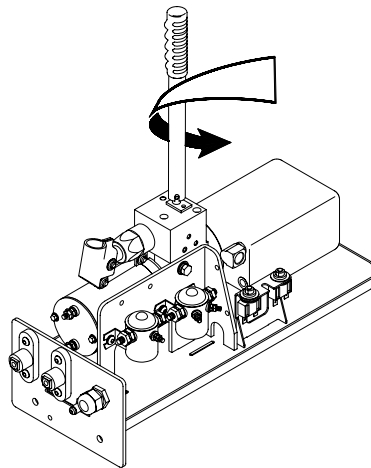

FIGURE 2-12: ROTATE VALVE CW TO CLOSE
- 5) Refer to **Figure 2-12**. Engage pump pressure release valve with notched end of pump handle, and turn valve LIGHTLY CLOCKWISE to verify that it is closed (valve should have been closed previously). Remove handle.